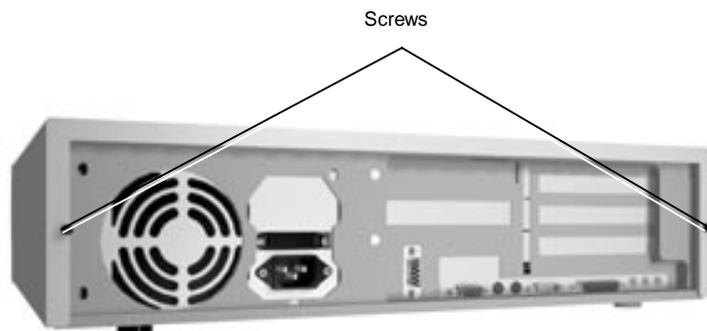

Figure 3-1 Loosen Cover Screws
3. Loosen the two cover screws at the rear of the system unit (see Figure 3-1).